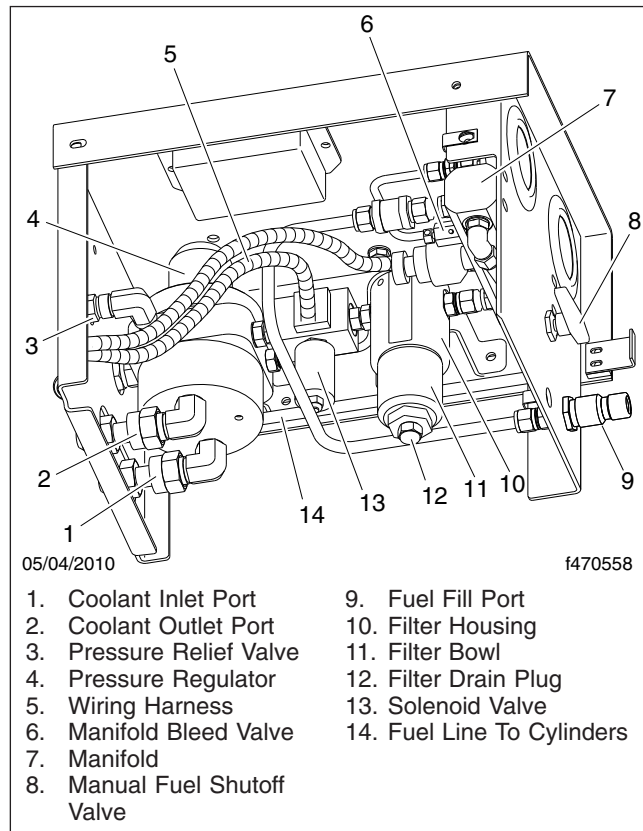

Fig. 14, CNG Fuel Panel Components
6. Slowly open the bleed valve on the manifold to relieve remaining fuel pressure within the system. See Fig. 14.